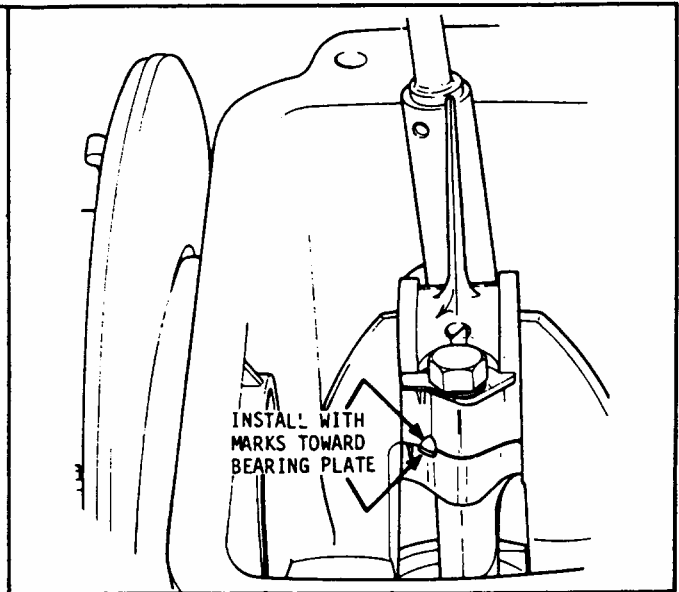

Figure 42 Installing Connecting Rod Cap Screw
- b. It is important that marks on connecting rod and cap line up and face flywheel end of engine. (See Figure 42)